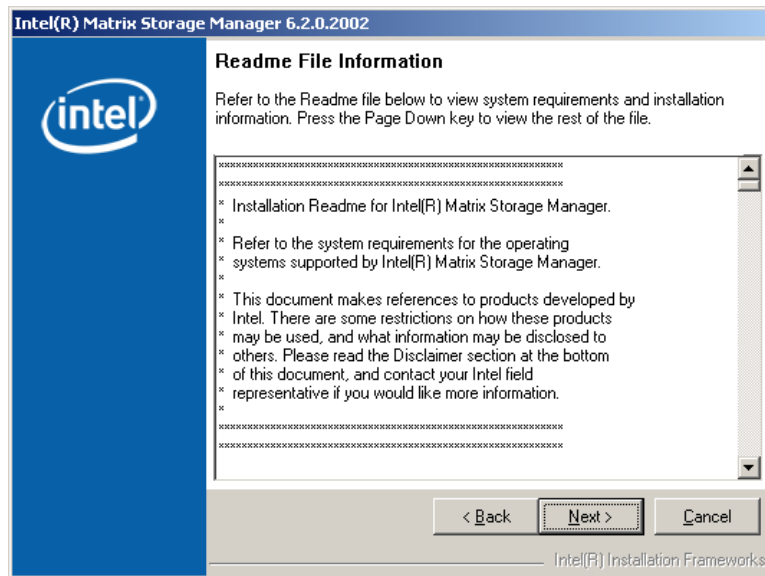

Figure 6-33: Matrix Storage Manager Readme File
Step 11: Read the license agreement. To accept the terms and conditions stipulated in the license agreement shown, click **YES** and the Readme information file shown in **Figure 6-33** appears.